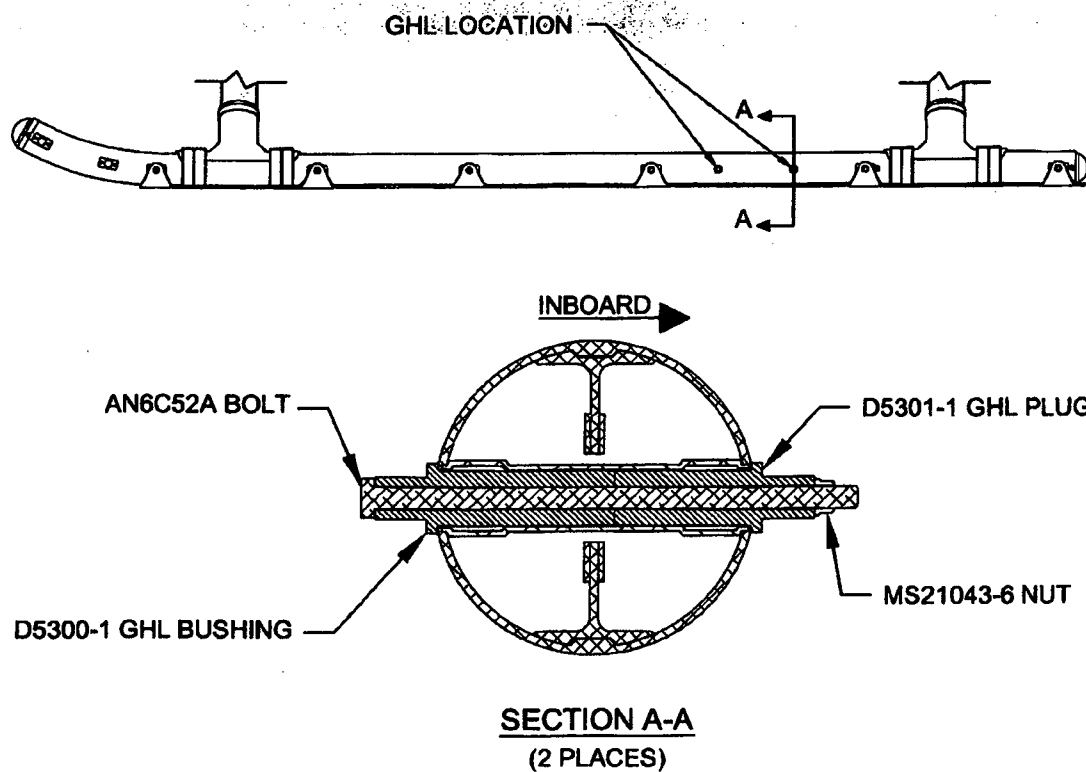

FIGURE 1 - GHIL UPGRADE INSTALLATION
- 2.2 Loosely install (qty 2) D5300-1 GHL Bushing & (qty 2) D5301-1 GHL Plug wet with Proseal 890 or MIL-S-8802 Class B2 Sealant in location shown in Figure 1.
- 2.3 Install AN6C52A Bolts and (qty 2) MS21043-6 Nuts in accordance with Figure 1. Clean up squeezed out Proseal and apply fillet seal around D5300-1 & D5301-1.